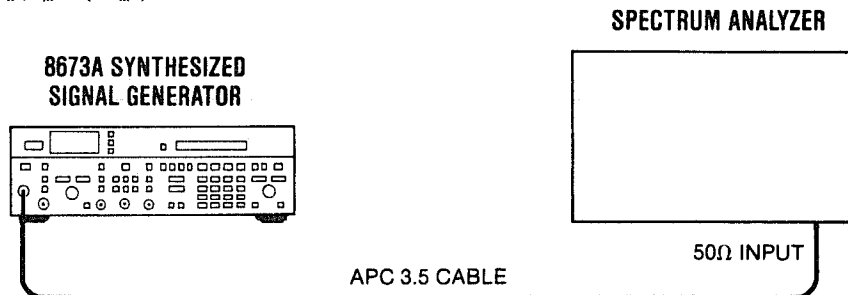

Figure 4-5. Non-Harmonically related Spurious (CW and AM Modes) Test Setup
1. Connect the Signal Generator RF OUTPUT to the input of the spectrum analyzer as shown in Figure 4-5.